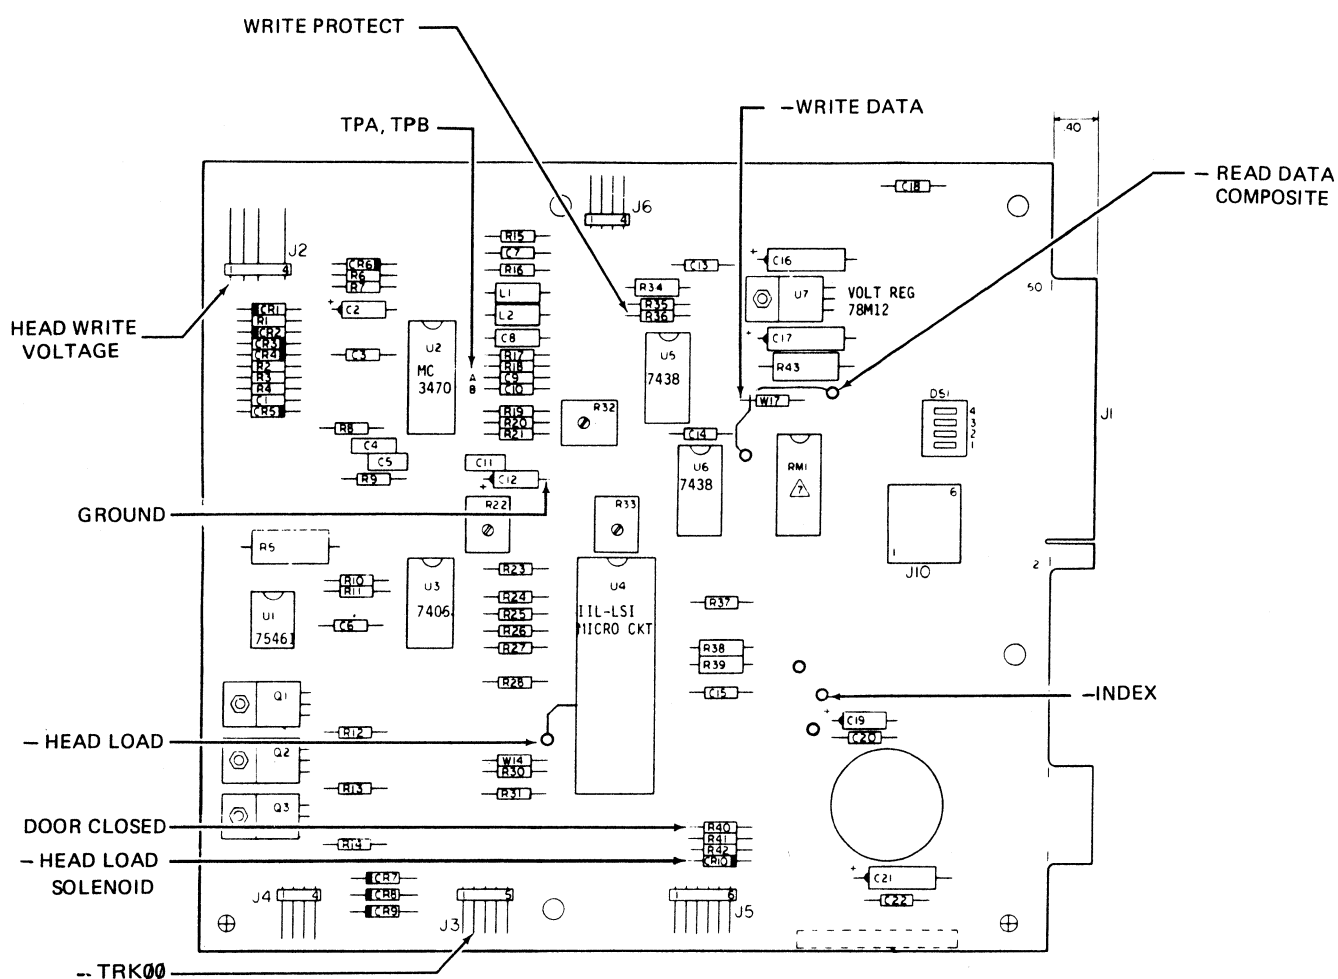

Figure 1. CDC Model 9404B PCB Test Points and Component Locations.
Refer to the **CDC Maintenance Manual** and to Figure 1 on the following page.
1. Figure 1 shows suggested locations to be used as test points. The arrows point to a component lead or plate through hole that may be used for the corresponding signals.